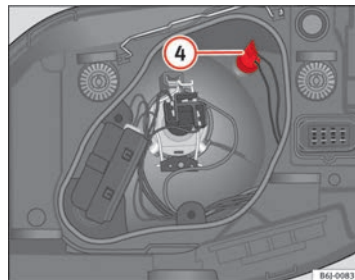

Fig. 155 Side lights
- Remove the bulb holder ④ ⇒ fig. 155 outwards.